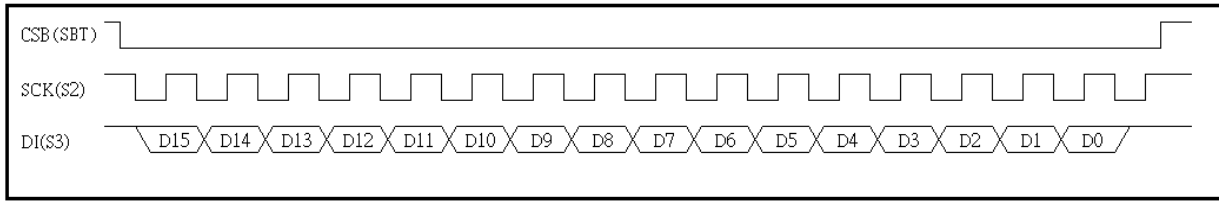

Fig.10 SPI Command timing
- a. Command timing reference Fig.10 SPI Command timing.